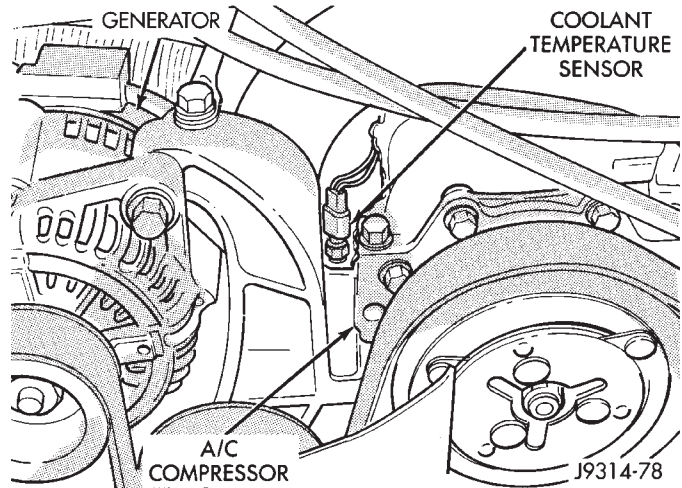

Fig. 55 Engine Coolant Temperature Sensor—5.2L/5.9L Engines
(1) Disconnect wire harness connector from coolant temperature sensor (Fig. 55).